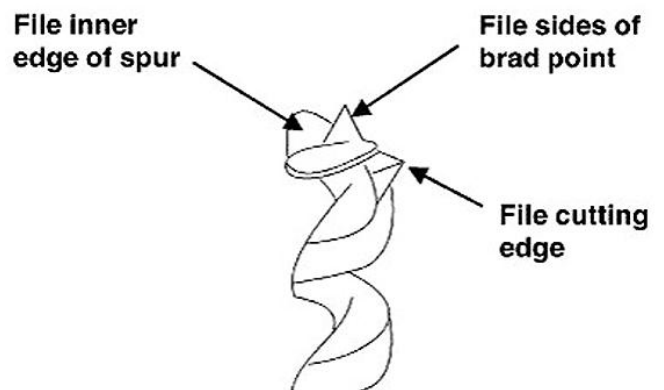

Fig 8
1. Sharpen the bit by using a small, smooth file, *following the original shape of the bit*. File the inside edge of the spur, the sides of the brad point, and the cutting edge inwards toward the flute of the bit. See Fig. 8. Do not file the outside edge of the spur as this will affect the diameter of the bit.